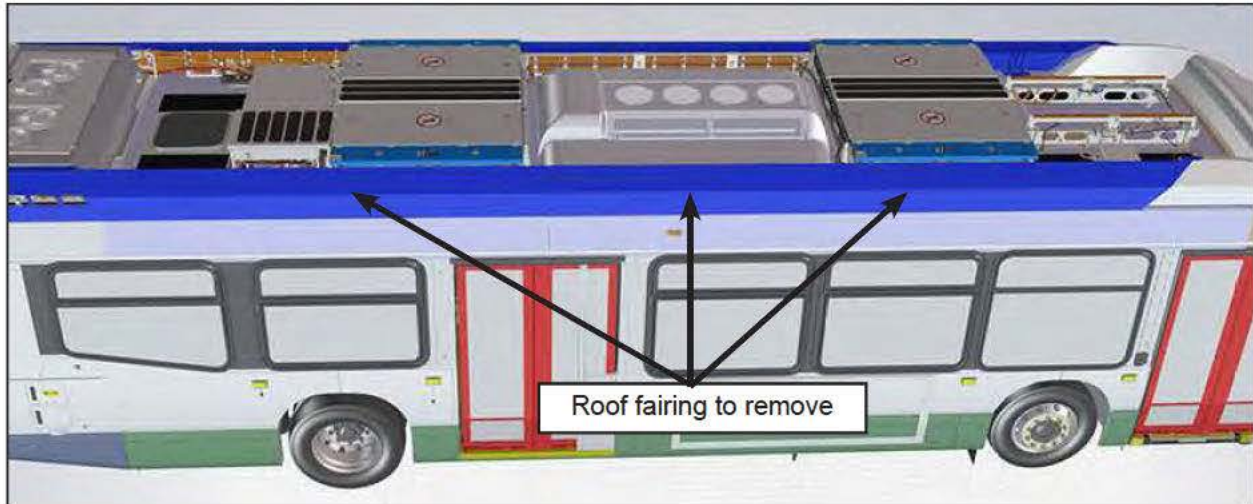

Figure 2 - Curbside Roof Fairing to Remove
- 1.7. Remove the curbside roof fairing. See section 10-701: **LFSE+ HVESS - UPPER REAR** and 10-705: **LFSE+ HVESS - UPPER FRONT** for information regarding roof fairing removal. Retain hardware and fairings. See Figure 2 for fairing to remove.